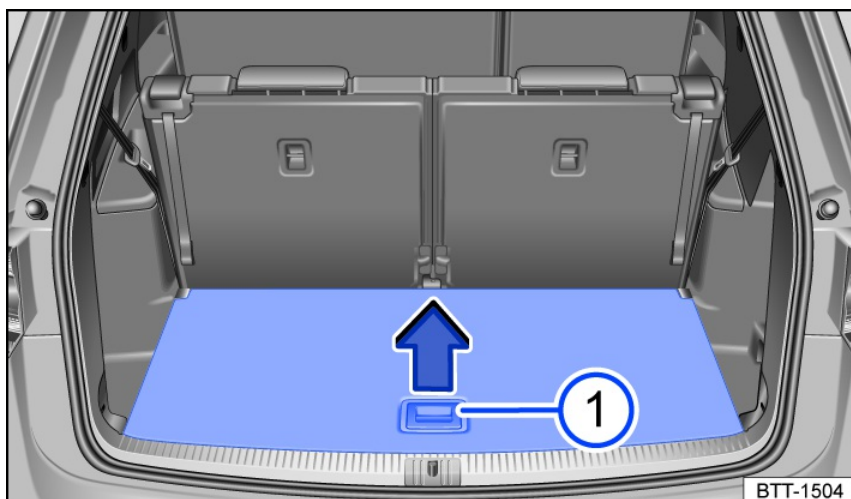

Fig. 158 In the luggage compartment: opening the luggage compartment floor.
2. Grasp the handle in the luggage compartment floor fig. 158 ① and lift up the floor panel in the direction of the arrow.